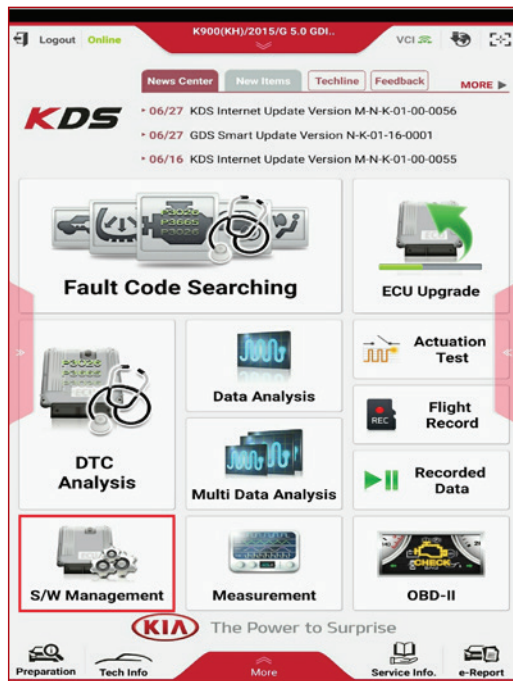

Fig. 1.
1. Navigate from the KDS Main page (See Fig. 1) and select S/W Management.